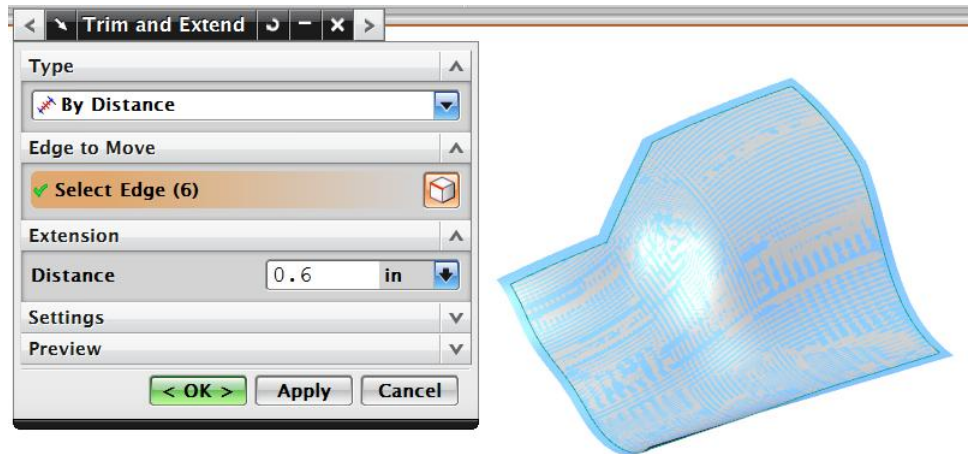

Figure 2–44
2. Select the 6 edges of **Tool\_Surface** and enter ~~[0.6 in] (15 mm)~~ for ~~Distance~~ as shown in Figure 2–44.